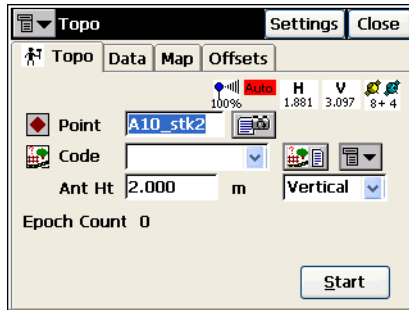

Figure 6-13. Topo
1. Select **Survey** ► **Topo**. On the *Topo* screen, enter the Point name, enter a photo note using the  button if necessary, select the Code and select the antenna height and height type (Figure 6-13).
5. Tap **Start** on the *Topo* tab to start the survey (Figure 6-13 on page 6-12). When using a mmGPS system, the *Topo* tab displays a mmGPS icon . This icon displays when the receiver calculates mmGPS heights.